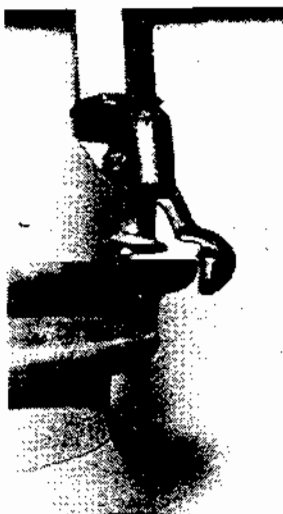

Fig. 4
5. Move the head column forward (manual on 8500 - with pedal [5] on the 8600). Set the mount/demount head in position as shown in Figure 4.